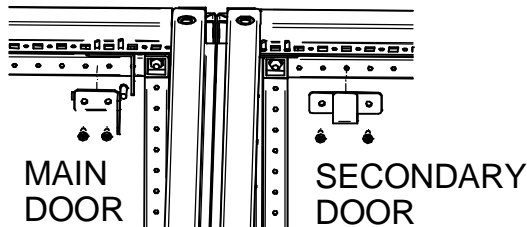

FIG. 2 (TOP INSIDE VIEW)
B) Install the interlock engager (Item 4) onto the main enclosure door frame and the interlock door catch (Item 2) onto the secondary enclosure door frame as shown in fig. 2 using thread rolling screws.